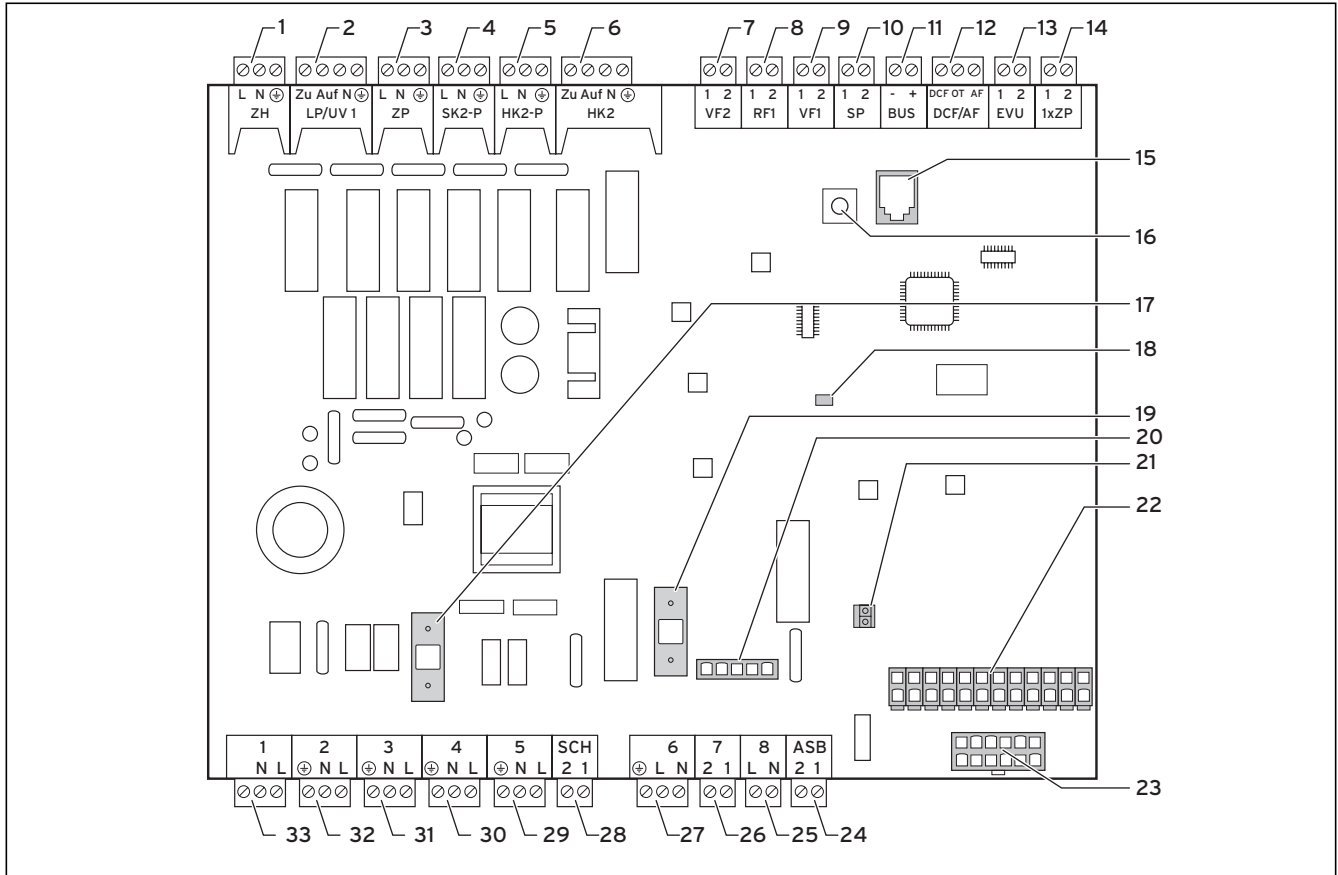

Fig. 6.6 Controller PCB
- Connect the power supply to the principal mains feed (1).
- Connect the ripple control signal relay to terminal 13, "EVU" (see Fig 6.6), if required by the power company. The heat pump is blocked with this signal when the contact is closed.
- Connect the permanent power supply to the high tariff mains feed (2).
- Connect the low tariff power supply to the low tariff mains feed (1).
- Connect the permanent power supply to the controller mains feed (2).
### Key to Fig. 6.6